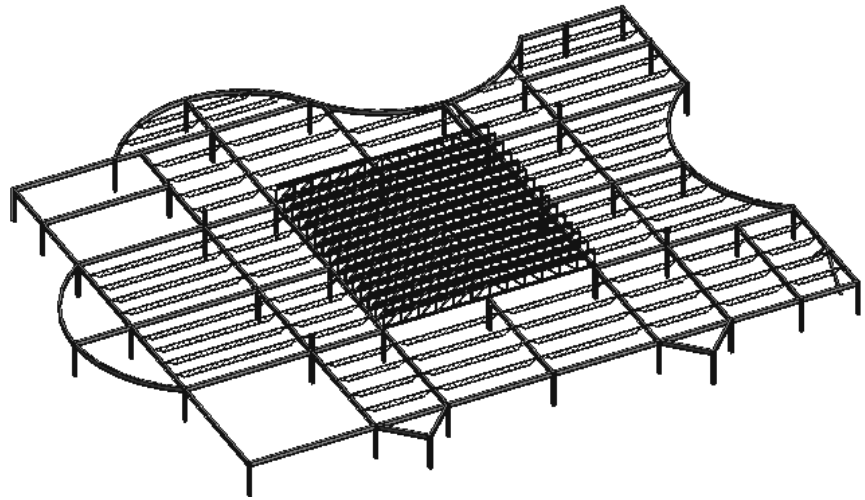

Figure 7–71
10. Open the **3D Views: Roof and Skylight** view and rotate the view to display the trusses, as shown in Figure 7–71.
5. Zoom in on the skylight roof in the two elevation views, similar to that shown in Figure 7–72.